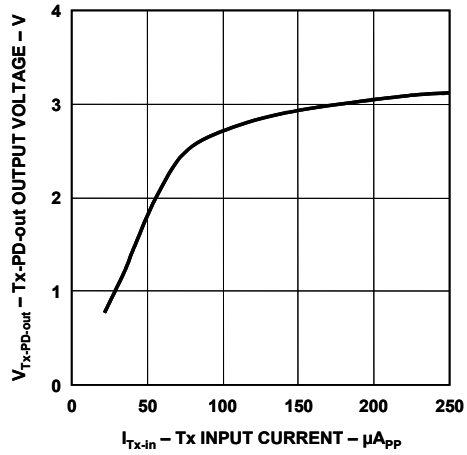
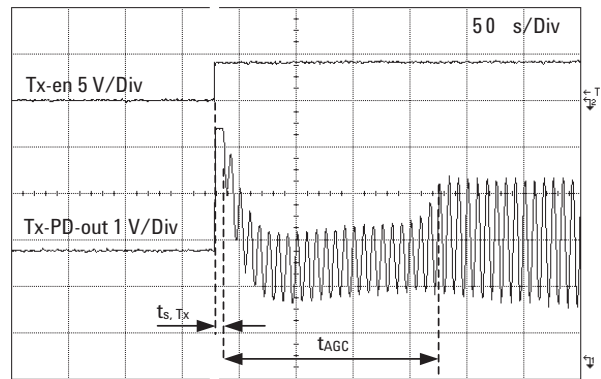

Figure 8. Tx-PD-out output voltage vs. Tx-in input current
Figure 26. Tx-PD-out AGC response time
- Time from transmit is enabled (V_{Tx-en} is set to logic high) until output (Tx-PD-out) is available. See Figure 26 in the Application Information section.
- Time from output (Tx-PD-out) is available until Tx-PD-out signal reaches 66% of its steady state level. See Figure 26 in the Application Information section.
This AGC circuit compensates for variations in the input signal level presented at Tx-in and variations in the optical channel over temperature and time. The Tx-PD-out output signal is effectively stabilized for input Tx-in signals of between $150 \mu A_{pp}$ and $250 \mu A_{pp}$ (see Figure 8). The AGC circuit starts to function $10 \mu s$ after the Tx-en signal is set to logic high. After a period of $180 \mu s$ the Tx-PD-out signal typically reaches 66% of its steady state level (see Figure 26). To ensure correct operation of the internal circuitry, an external $1 \mu F$ capacitor needs to be connected from pin 11 to GND2.